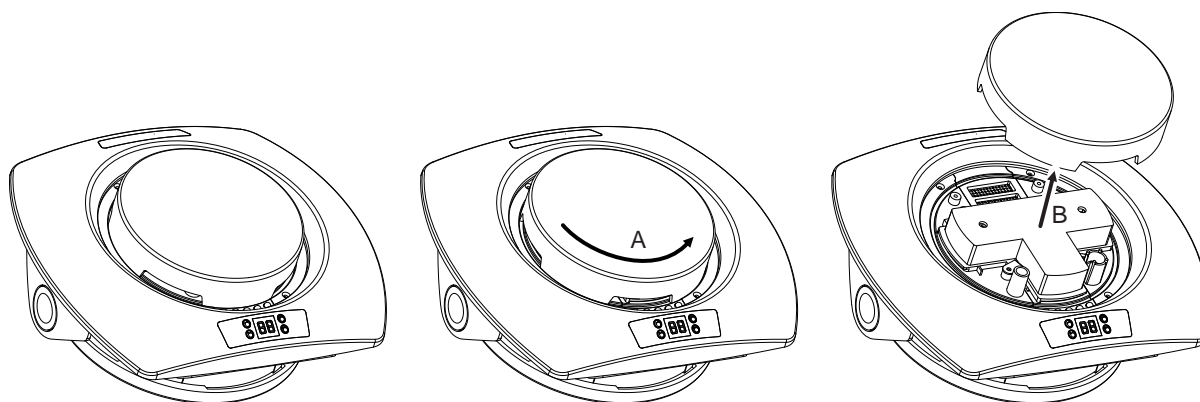

Figure 8-1: Remove the Detector Cover
1. Rotate cover 45° counter-clockwise and remove by lifting outwards (Figure 8-1).